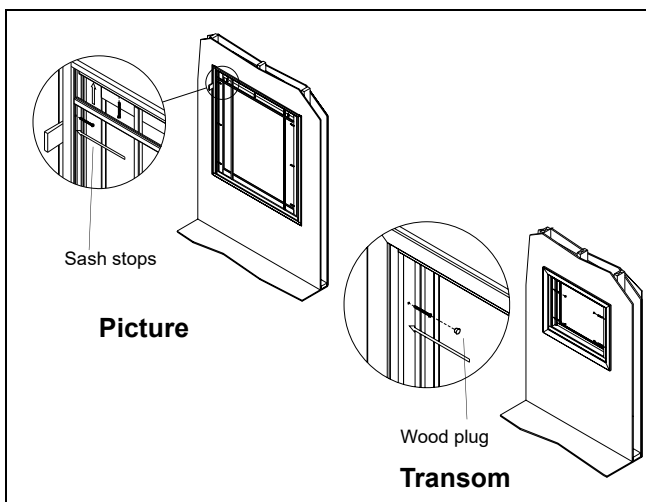

Figure 16
13. On picture and transom units, fasten unit in opening by inserting the #7x2" Phillips pan head screws (provided) into pre-drilled screw holes and tighten with a power driver/drill. Be sure shims are placed near every screw location to avoid bowing of jambs. Do not over-tighten screws. See figure 16. Recheck frame for squareness. Adjust as necessary by either loosening or tightening screws. On picture units, install the interior sash stop by pressing the connecting barb into the jamb kerf as shown. Start with the jambs first, then install the head jamb stop last.
15. On transom units, cover screw holes in jambs by inserting the wood hole plugs until they are flush with the jambs. See figure 16. On operator units, insert color matched plugs in lower screw holes and wood plugs in upper screw holes. Insert the check rail pad over the jamb jack hole at check rail. See figure .